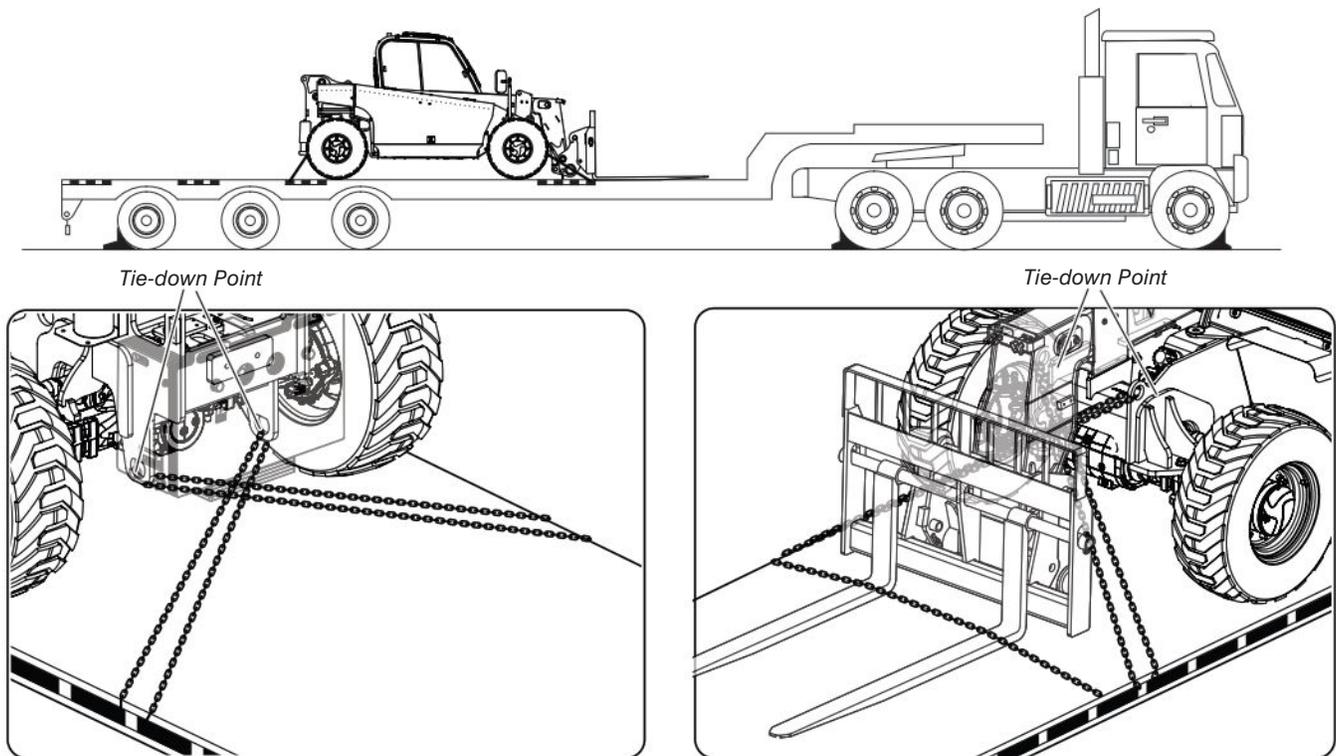

Figure 43 Tie-down points
10. Anchor down telehandler to transport surface using tie-down points (see Figure 43) and secure the forks to the platform using sufficient straps.